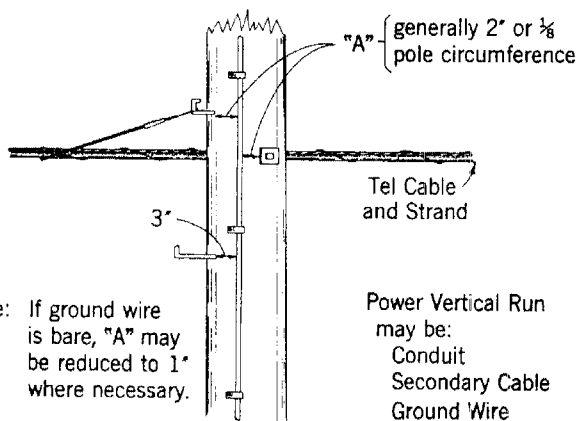

Fig. 21
8.01 Telephone through bolts, lag screws, and pole steps shall in general be located 1/8 pole circumference away from power vertical runs made on the surface of the pole. Through bolts and lag screws shall generally be 2 inches from such vertical runs. Bare vertical grounding conductors may be 1 inch from through bolts or lag screws, however. (See Fig. 21.)